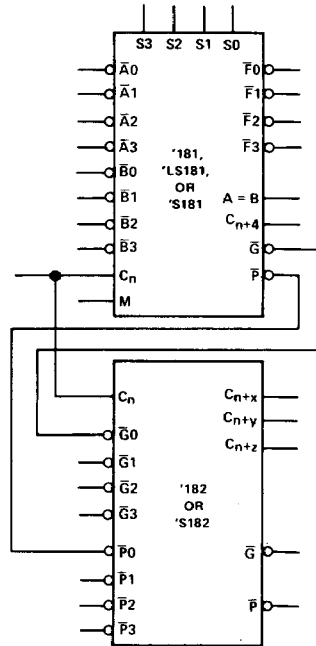
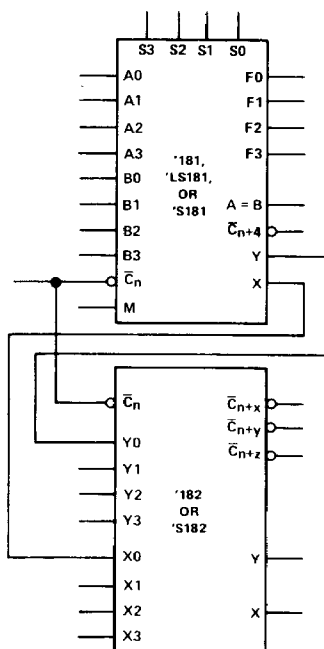

FIGURE 1
FIGURE 2
The '181, 'LS181, and 'S181 together with the '182 and 'S182 can be used with the signal designations of either Figure 1 or Figure 2. The inversion indicators (O) and the bars over the terminal letter symbols (e.g., $\bar{C}$) each indicate that the associated input or output is active with respect to the selected function of the device when that input or output is low. That is, a low at $\bar{C}$ means "do carry" while a high means "do not carry".
The logic functions and arithmetic operations obtained with signal designations of Figure 1 are given in Table 1; those obtained with signal designations of Figure 2 are given in Table 2.